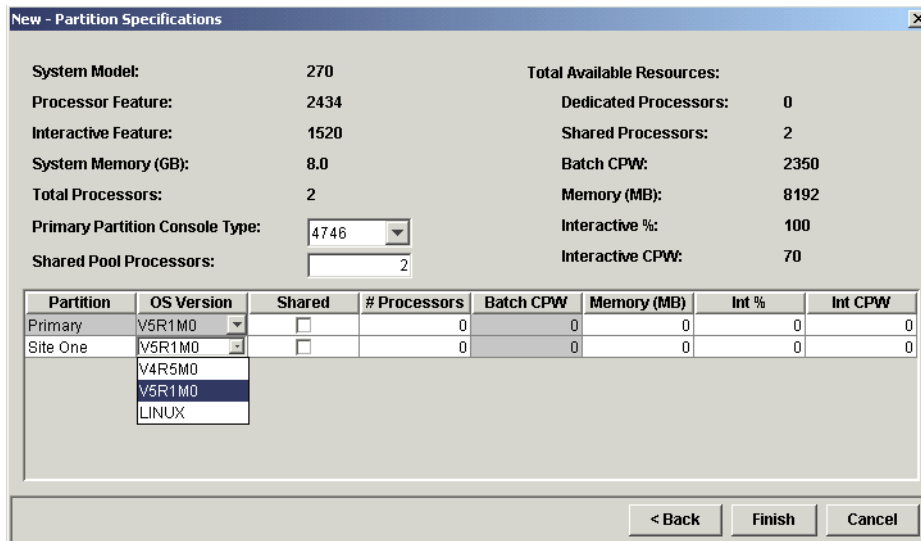

Figure 12-6 Operating system selection for secondary partitions
- Select the operating system for secondary partitions. The primary partition’s operating system cannot be changed. If needed, click **Back** to go to the previous windows and change the operating system for the primary partition. You may also change the name of secondary partitions (up to ten characters). Figure 12-6 shows the available operating systems and that “P1” has been changed to “Site One”.